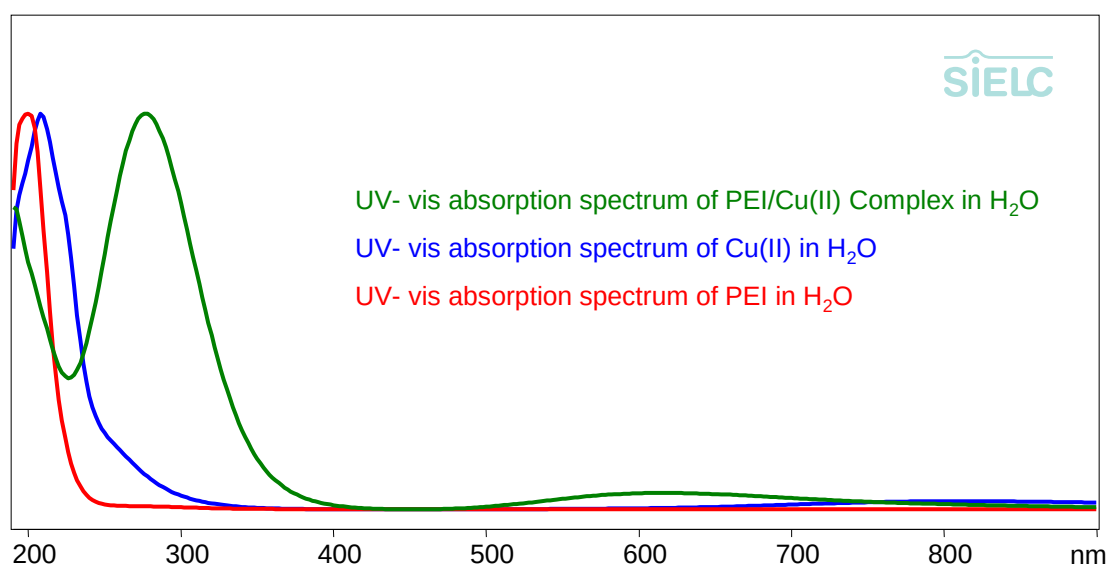

Fig. 1. UV spectra of PEI • Cu²⁺ complex in water (a); Cu²⁺ spectra in water (b); PEI spectra in water (c)
SIELC developed a new methodology and a corresponding HPLC column to address these difficulties and offer a simple and reliable method for PEI quantitation in any liquid samples. The method is based on forming a complex of PEI with Cu (II) which has strong UV and visible light adsorption maximums (Fig. 1).